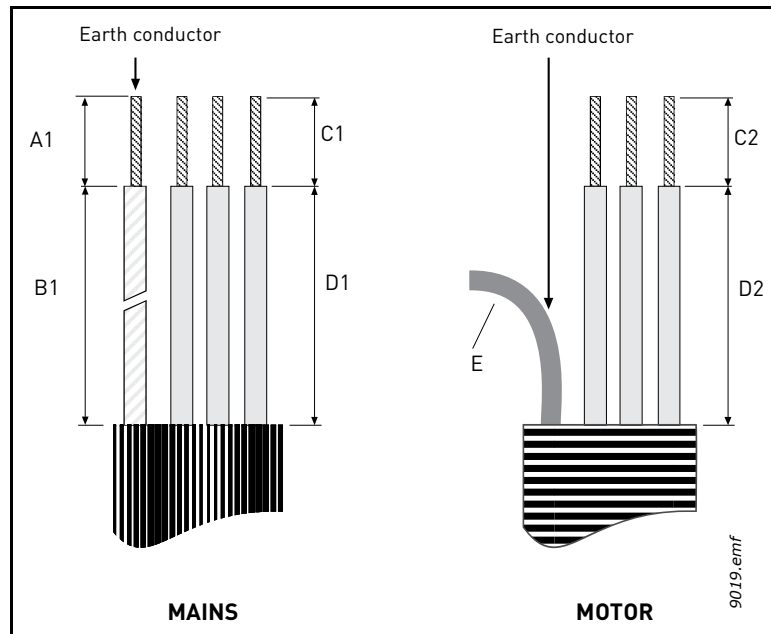
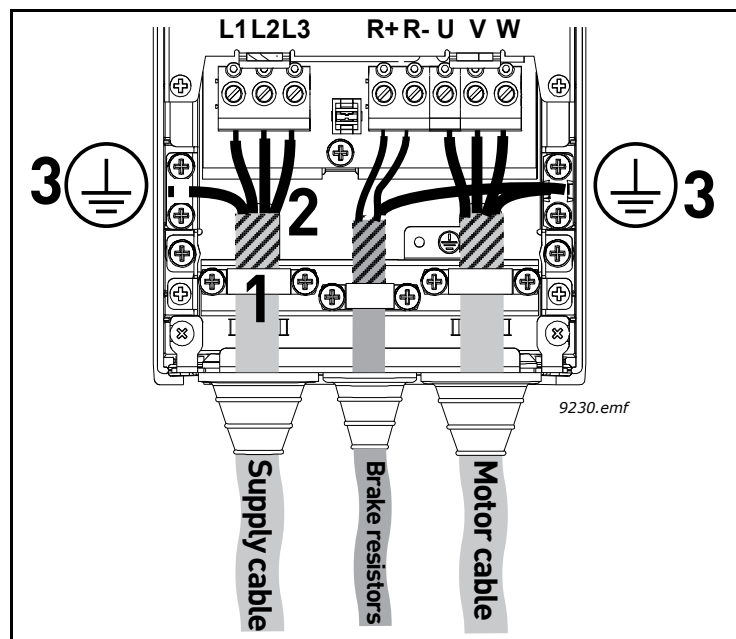

Figure 25. Stripping of cables
Figure 32. Cable connection
Connect the stripped cables (see Figure 25 and Table) as shown in Figure 32.
- Expose the shield of all three cables in order to make a 360-degree connection with the cable clamp (1).
- Connect the (phase) conductors of the supply, brake and motor cables into their respective terminals (2).
- Form the rest of the cable shield of all three cables into “pigtails” and make a grounding connection with a clamp as shown in Figure 32 (3). Make the pigtails **just long enough** to reach and be fixed to the terminal - not longer.